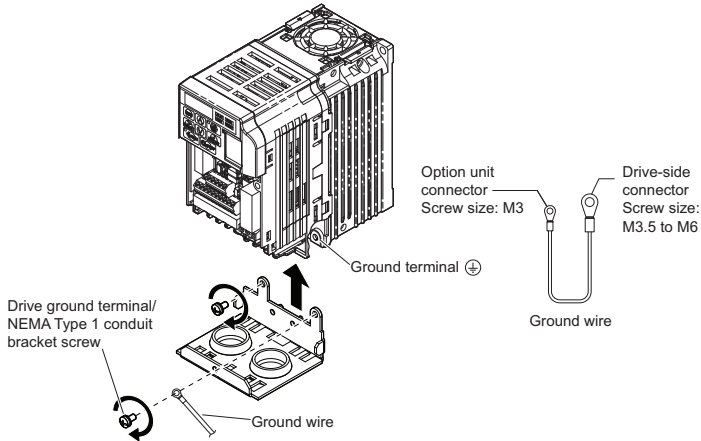

Figure 11 Reattach the NEMA Type 1 Conduit Bracket and Connect the Ground Wire
8. On NEMA Type 1 enclosure drives, the screw for the drive ground terminal also acts as one of the screws that attaches the NEMA Type 1 conduit bracket to the drive. Reattach the NEMA Type 1 conduit bracket according to Figure 11 and connect the drive-side of the ground wire to the drive ground terminal.